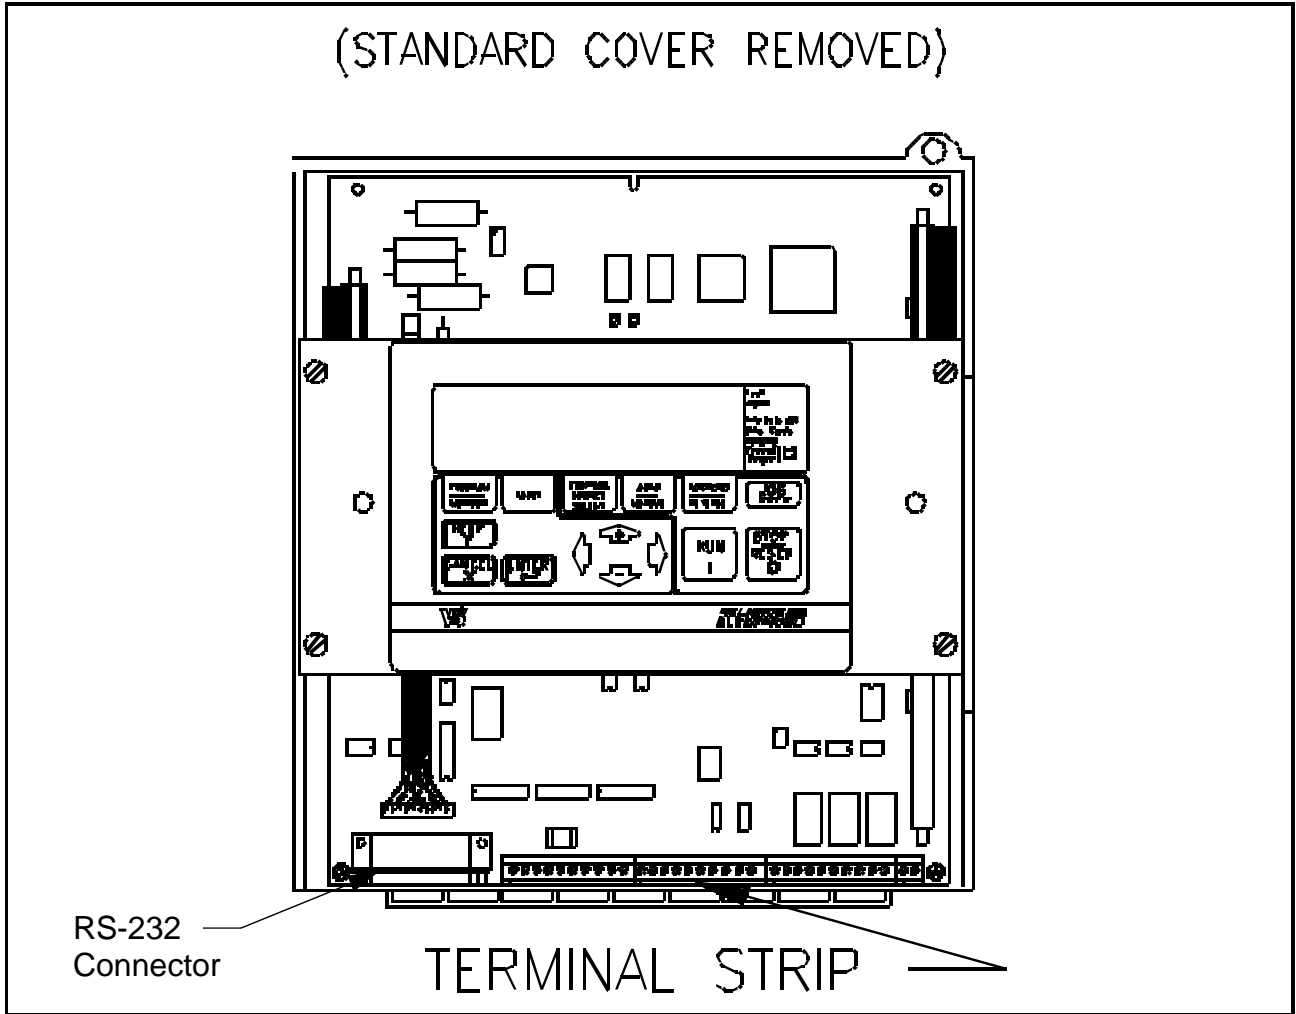

Figure 2.25 – Location of Regulator Board Terminal Strip
Step 2. Locate the terminal strip (1 to 32) at the bottom of the regulator board. See figure 2.25.